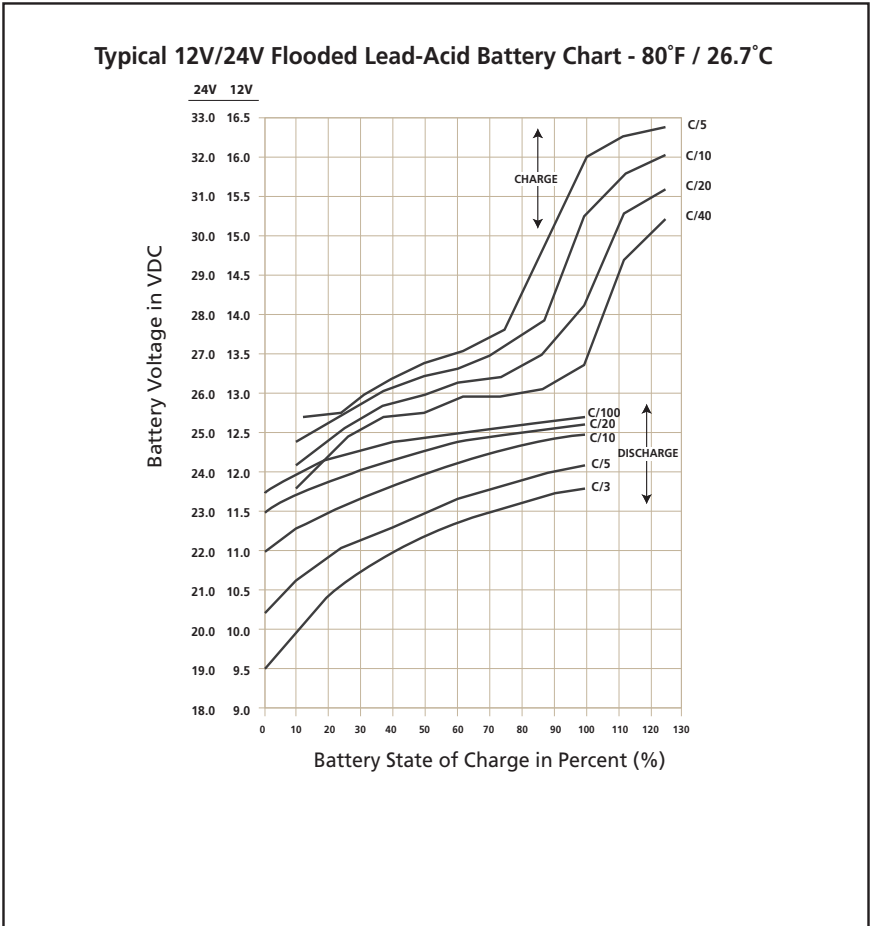

Fig 7.1 Charging / Discharging Curves for Typical 12V/24V Flooded Lead Acid Battery
7.7.1 Fig 7.1 shows examples of State of Charge / Discharge Curves for different C-rates for typical 12V / 24V Lead Acid Battery at 80°F / 26.7°C. These curves are used to determine the State of Charge / Discharge of the battery based on its terminal voltage.
7.7.2 Example of Determining *State of Charge* (using Fig 7.1) when Charging 12V, 100Ah Battery at C-rate of 0.1C or C/10 or 10A: Refer to Charge Curve marked C10 of the upper 4 curves marked "CHARGE". States of Charge at different battery terminal voltages will be: (a) At 15.3V = 100% charged; (b) At 14.3V = 90% charged; (c) At 13.5V = 70% charged; (d) At 12.5V = 15% charged
7.7.3 Example of Determining State of Discharge (using Fig 7.1) when Discharging 12V, 100Ah Battery at C-rate of 0.33C or C/3 or 33.3A: Refer to Charge Curve marked C3 of the lower 4 curves marked "DISCHARGE". States of Discharge at different battery terminal voltages will be: [a] At 9.5V = 100% discharged (0% charged); [b] At 10.4V = 80% discharged (20% charged); [c] At 11.5V = 28% discharged (72% charged) and [d] 11.75V = 0% discharged (100% charged)
The discharge curves in Fig. 7.1 show the % State of Charge versus the terminal voltage of typical Flooded Lead Acid Battery under different charge /discharge currents, i.e. “C-rates” and fixed temperature of 80°F. (Please note that the X-Axis of the curves shows the % of State of Charge. The % of State of Discharge will be 100% - % State of Charge).
As stated earlier at Section 7.10, the buzzer alarm is triggered when the voltage at the DC input terminals of the inverter has dropped to around 10.5V for a 12V battery or 21V for a 24V battery at C-rate discharge current of C/5 Amps. Please note that the terminal voltage relative to a particular of State Discharge decreases with the rise in the value of the discharge current. For example, terminal voltages for a State of Discharge of 80% (State of Charge of 20%) for various discharge currents will be as given at Table 7.5 (Refer to Fig 7.1 for parameters and values shown in Table 7.5):
Inverters are normally provided with a protection to shut down the output of the inverter if the DC voltage at the input terminals of the inverter drops below a threshold of around 10V for a 12V battery or, 20V for 24V battery. Referring to the Discharge Curves given in Fig 7.1, the State of Discharge for various C-rate discharge currents for battery voltage of 10V/ 20V is as follows: (Please note that the X-Axis of the curves shows the % of State of Charge. The % of State of Discharge will be 100% - % State of Charge):